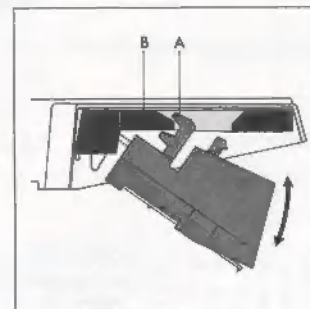

Fig. 3
Hold the pick-up cartridge between the thumb and the index finger of the right hand and slanting it inside the pick-up head so that the guide bar (A) of the pick-up cartridge sets into the wide cut-out (B) (Fig. 3).